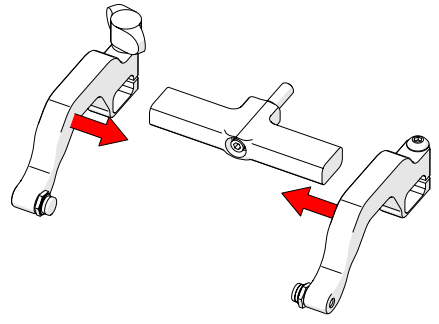

Fig. 60 - Place arms back onto yoke
6. Place the probe holder arms on the yoke and tighten the arm clamp screw and probe holder adjustment knob (Fig. 60).